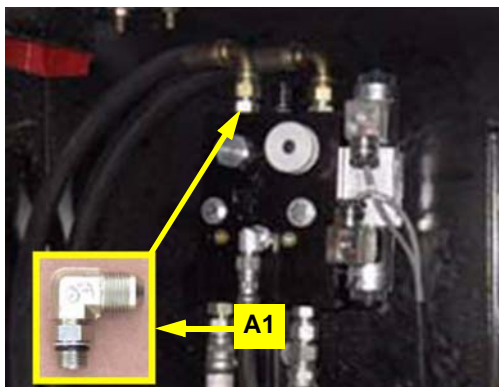
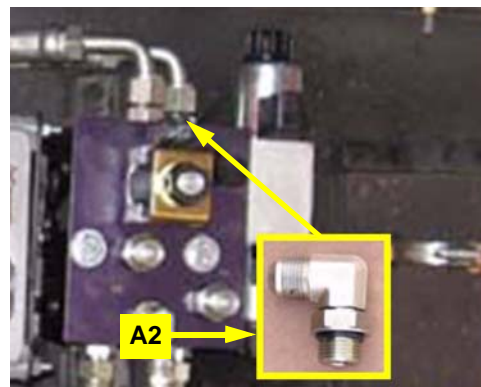

Figure 3a: Elbow adapter into T port (TC)
Figure 3b: Elbow adapter into T port (eDX)
3. At the hydraulic steering block, remove the straight adaptor from the **T** port and replace it with either fitting **A1** (TC - Figure 3a) or **A2** (eDriveX - Figure 3b).